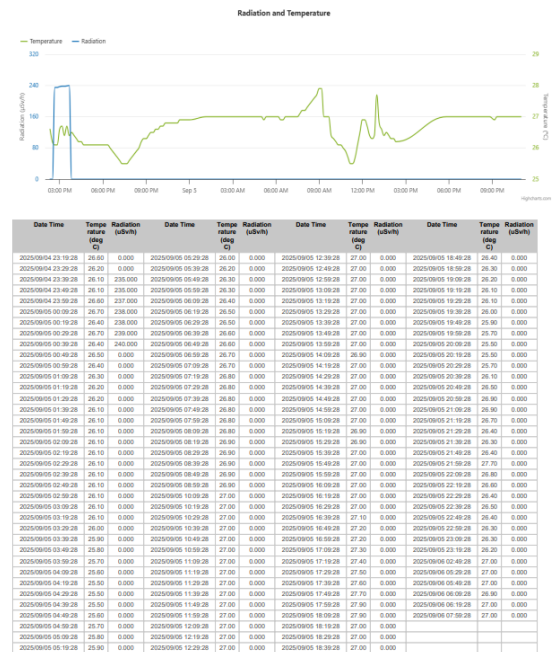

Figure 42: PDF Report Example
- Figure 42** shows an example of a **PDF report** generated through the *Export PDF* function. The report includes radiation and temperature data, timestamps, and summary statistics for the selected period.